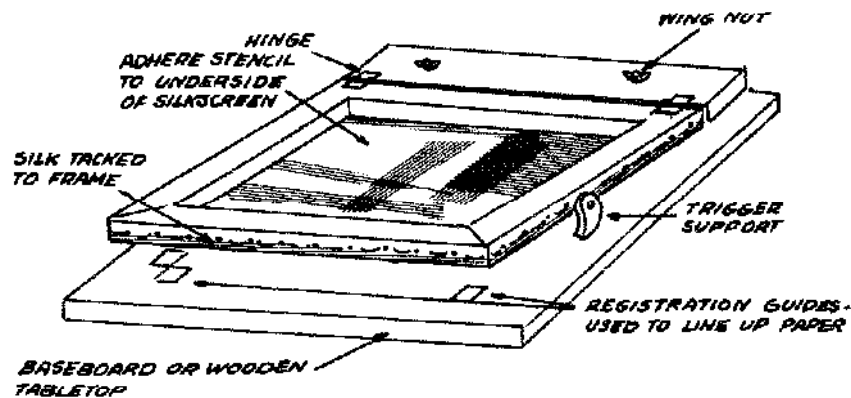

FIGURE 2. BOLT THE HINGED END OF THE FRAME TO A FLAT BASEBOARD OR WOODEN TABLETOP.
2. Stretch the silk very tightly over the underside of the frame, using tacks every **2.5cm (1")**. Make sure that the threads of the silk run parallel with the edges of the frame, pull the silk over the outside bottom edges and tack the silk around the outside of the frame (see Figure 2).
5. The pieces to be printed can be registered (lined up so that the printed image appears in exactly the same place on each piece). Registration guides can be made of thin cardboard or several layers of tape (see Figure 2).